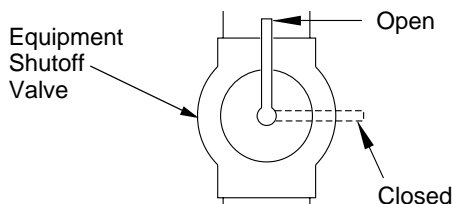

Figure 19 - Equipment Shutoff Valve
1. Close equipment shutoff valve (see Figure 19).
3. Check all joints from gas meter to equipment shutoff valve (see Figure 19). Apply noncorrosive leak detection fluid to gas joints. Bubbles forming show a leak.
1. Open equipment shutoff valve (see Figure 19).